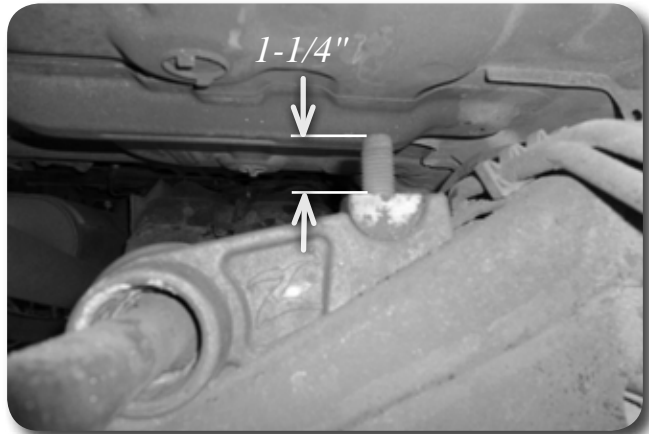

Figure 1
10. Set the overall length of the exposed thread to 1-1/4". This may need to be adjusted if heavy accessories are added to the front of the vehicle, or to level the vehicle side to side. **Figure 1**